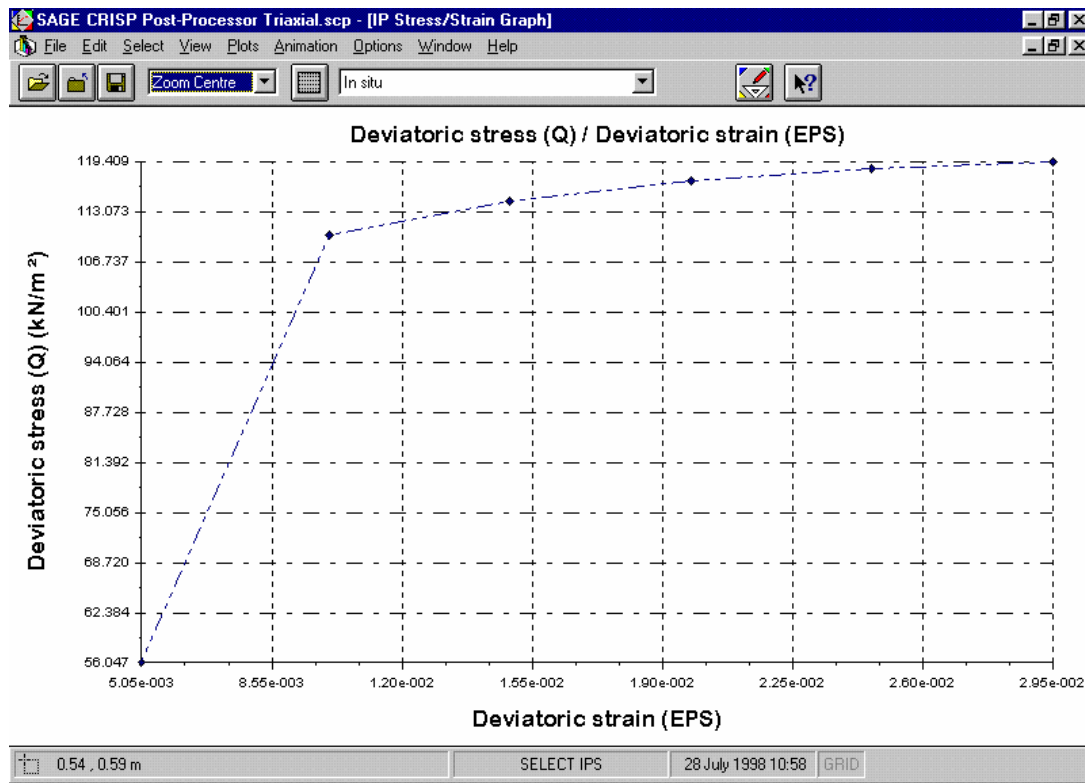

Figure 3-21: Integration Point Stress/Strain Graph
Step 10 Click on the "**q - Dev. Strain**" button. This automatically enters Deviatoric Strain (EPS) as X Axis data and Deviatoric Stress (Q) as Y Axis data.
Step 11 Click on **OK** to exit once you have finished. The graph displayed should look similar to Figure 3-21. You can configure the way the graph looks (axis labels, titles and legend) by double-clicking on the graph window and changing the set-up in the Graph Configuration dialogue box.